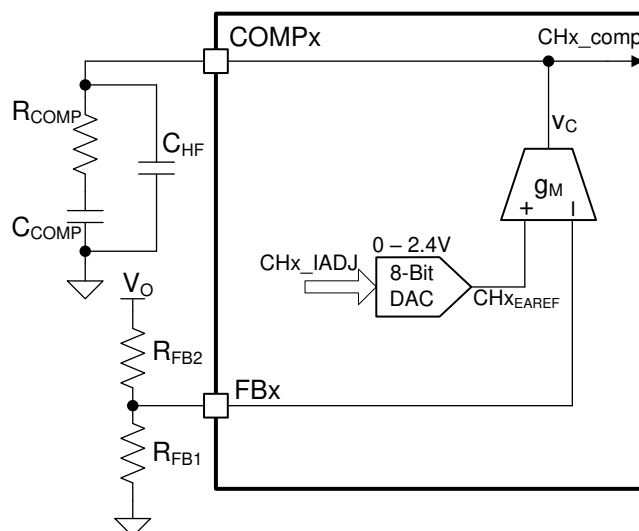

Figure 8-9. Proportional Integral Compensator
The feedback transfer function includes the voltage divider gain ($H_{FB} = R_{FB1} / (R_{FB1} + R_{FB2})$) and the transconductance amplifier gain. A compensation network at the output of the error amplifier is used to configure loop gain and phase characteristics. In CV BOOST application, a Proportional-Integral (PI) compensation is recommended. A network of R_{COMP} , C_{COMP} , and C_{HF} , shown in Figure 8-9, can be used to implement PI compensation to create a pole at the origin, a low-frequency zero, and a high-frequency pole.